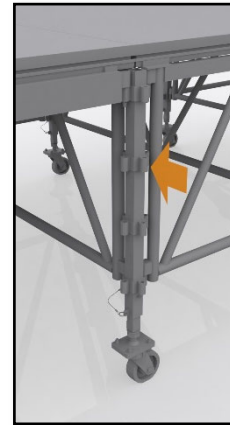

Fig. 33 – Push Point
9.1.9.2 Using a suitable amount of personnel for the Stage Configuration, push against each of the Node Posts. Ensure the manoeuvre is controlled and that everyone pushes equally, else the Stage won't track straight. *Fig. 33 – Push Point*